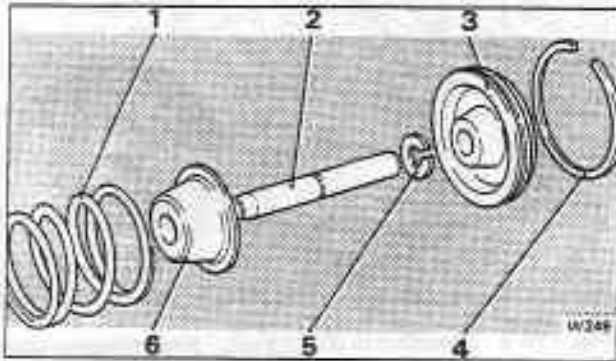
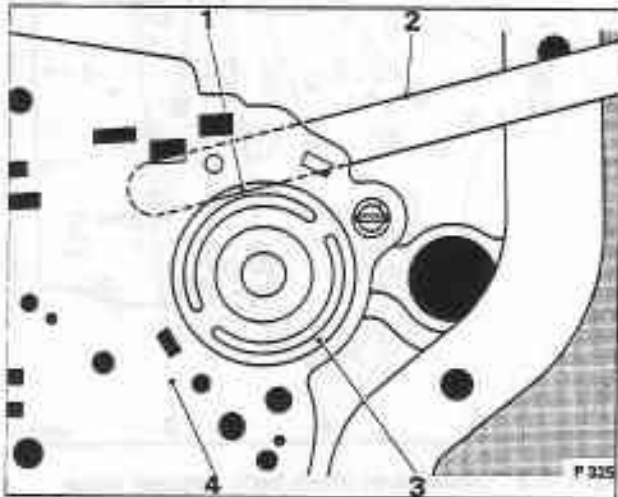

Fig. T15-3 Front servo
Fig. T15-4 Method of temporarily holding front servo piston in position (transmission in car)
8. Lift the front servo piston, retaining ring, pin, retainer, and spring from the transmission case. An exploded view of the front servo is shown in figure T15-3.
If the transmission is in the car, the parts should be assembled as a group (see fig.T15-3) and fitted into the servo bore. A length of straight clean feeler gauge (approximately 0,51 mm (0.020 in)) should be used to hold the servo assembly temporarily in position as shown in figure T15-4. Withdraw the feeler gauge before tightening the control valve body setscrews.